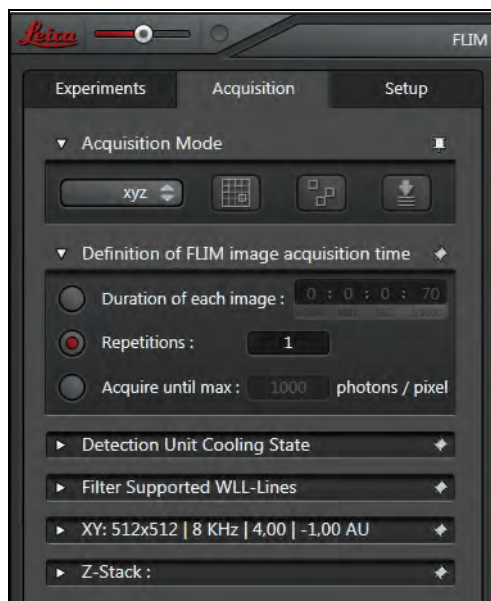

Figure 138: Defining a single FLIM image
7. In the **Defining FLIM Image acquisition time** dialog, you can define the duration of the acquisition of the individual image (**Figure 138**). To improve FLIM data statistics, multiple scanning operations are normally carried out with the specimen and the data is compiled into a final image. The following alternative options are possible: